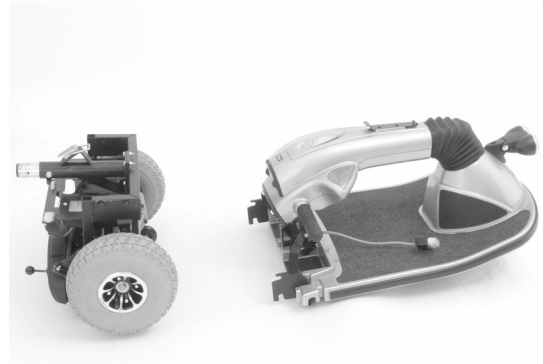

FIGURE 21. FRAME SECTIONS
1. Position the front and rear sections of your scooter as shown in figure 21.